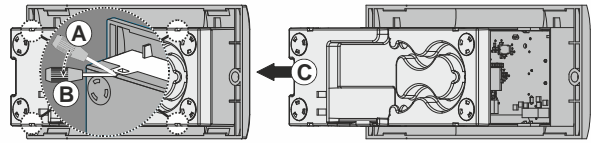
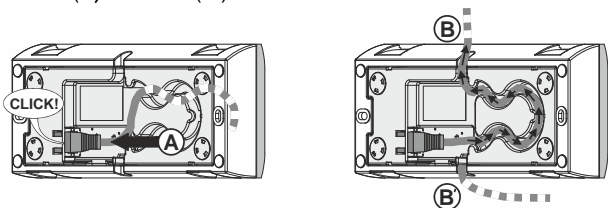
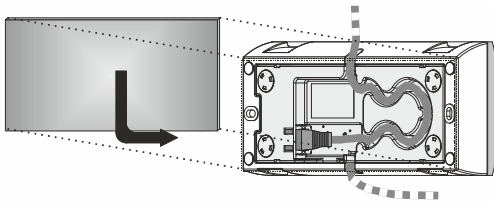

Fig. 3. Removing cover
Fig. 7. Plugging cable and looping through guide
Fig. 9. Attaching metal plate
1. Remove the cover (see Fig. 3).
5. Plug the connection cable into the RJ45 socket and loop through the cable guide for strain relief (see Fig. 7). The cable can exit the unit either through the upper (B) lower (B') outlet.
In the case of the handheld option, proceed as described in Fig. 3 to Fig. 7). Finally, attach the metal plate (see Fig. 9), which completely covers the rear of the device.
3. Finally, plug the connection cable into the RJ45 socket and loop it through the cable guide and cable outlet (see Fig. 7).
4. Finally, plug the connection cable into the RJ45 socket, loop it through the cable guide and cable outlet (see Fig. 7), and then click the XL2000HMI-A into the sub-base.